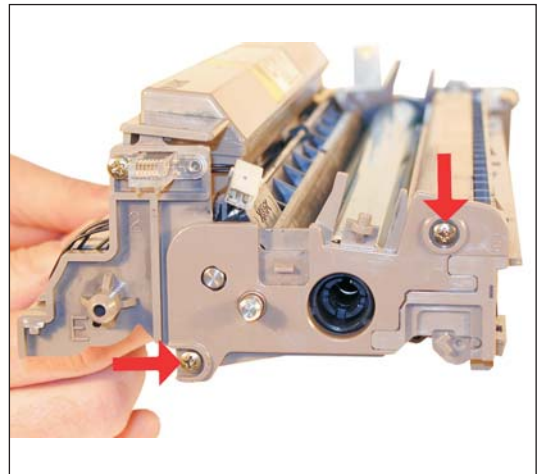

Figure 10
7) Remove the two screws from the left End Cap. See Figure 10